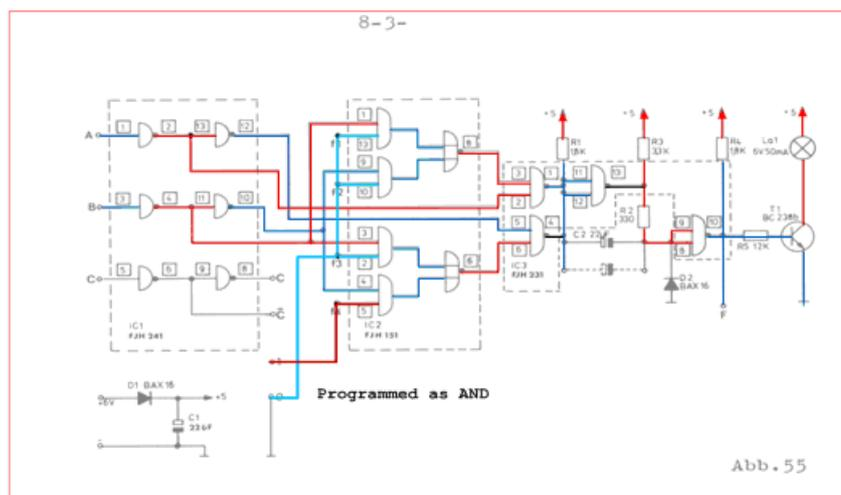

Figure 5
Figure 5 shows the situation where both inputs of the **AND** function are **FALSE (0)**. Using black colour at the output of the **NAND** gates signifies the fact that these are 'open collector' gates – if their logic value is 1, the voltage HIGH level is produced by a pull-up resistor. Notice that the output gate 1 is painted in blue – it pulls down the default **HIGH** level imposed by the resistor. This node effectively implements **OR**-behaviour: if neither of the **NAND** gates is activated, the pull-up is responsible for the output level. If either or both of the **NANDs** are active, the voltage is pulled to **GND**.